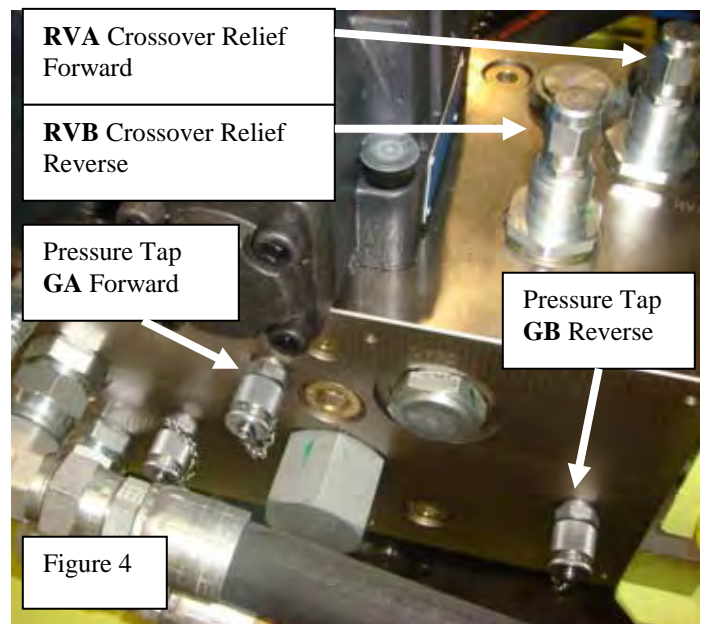

Figure 4
Install pressure gage on the pressure tap label (**GP**) on the propulsion manifold (Figure 2) and on the pressure tap label **GB** (reverse propel) on the propulsion manifold (Figure 4).
Turn both (RVA & RVB) crossover relief valve adjustments screws to full clockwise (CW) position (maximum pressure) (Figure 4).